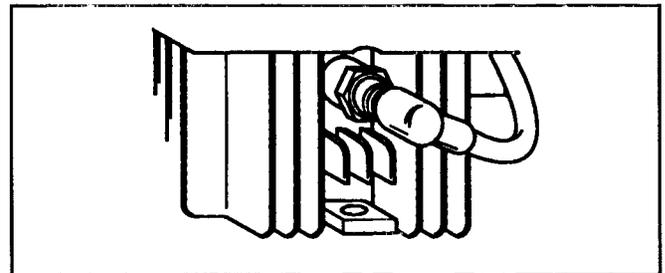

Figure 5
2. Install spark plug finger tight, then torque to 180 in lbs (15 ft lbs) (20 N•m). **Figure 5**.